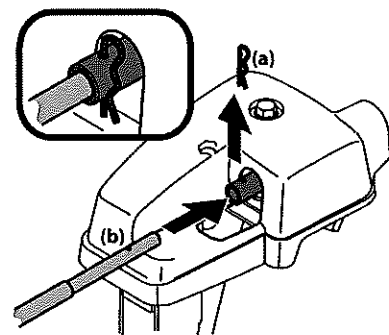

Figure 2-23
4. Remove hairpin clip (a) from rear of chute control assembly. See Figure 2-23.
5. Insert flex shaft (b) removed during Handle Assembly from lower handle into rear of chute directional control head. See Figure 2-23. Secure flex shaft to chute control head with hairpin clip (a) removed in Step 4.